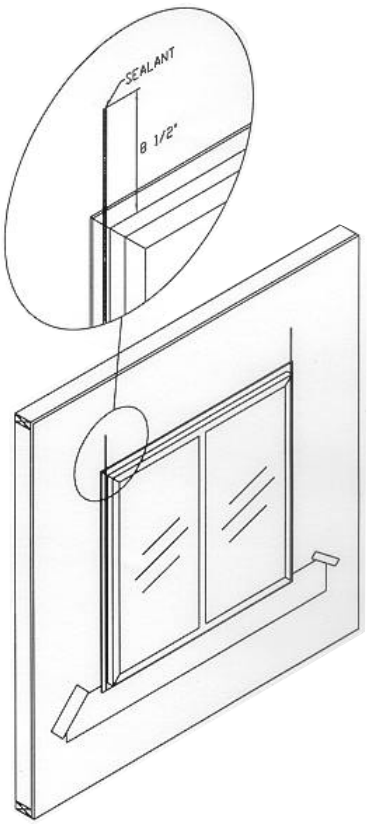

Figure 3 Apply sealant on flanges and to head above (Method "A")
2. Apply a continuous bead (bedding joint) of sealant to the exposed mounting flange at the side jambs of the installed window (see Figure 3).
3. Continue the sealant bead vertically 8 1/2" above the rough opening at the head of the window to allow for application of the top portion (8 1/2") of the jamb flashing into sealant in the next step (see Figure 3)